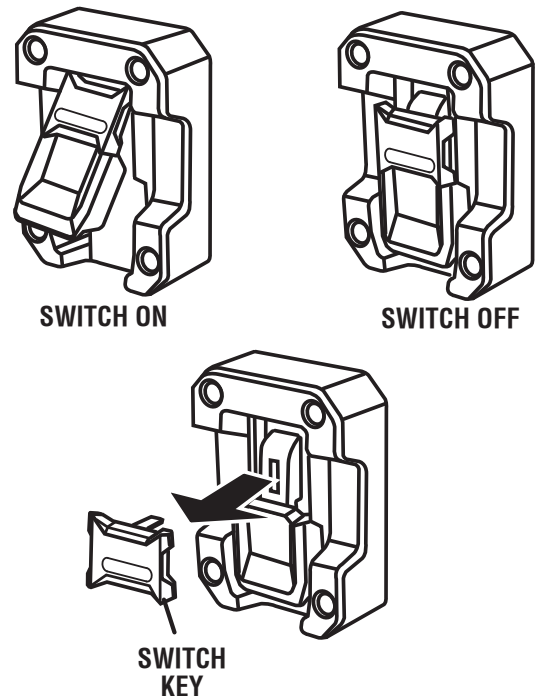

Fig. 49
**NOTE:** To prevent unauthorized use, remove the switch key as shown in figure 49.